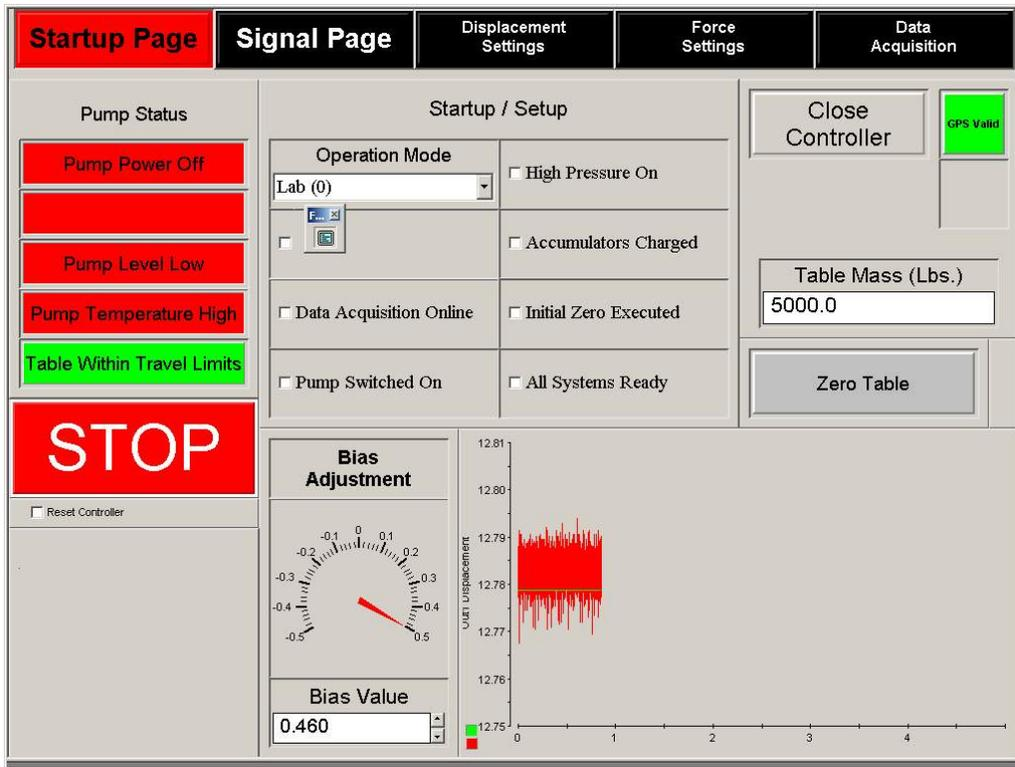

Figure 1.
5. Click the checkboxes of "Setup page" as seen in figure 1.